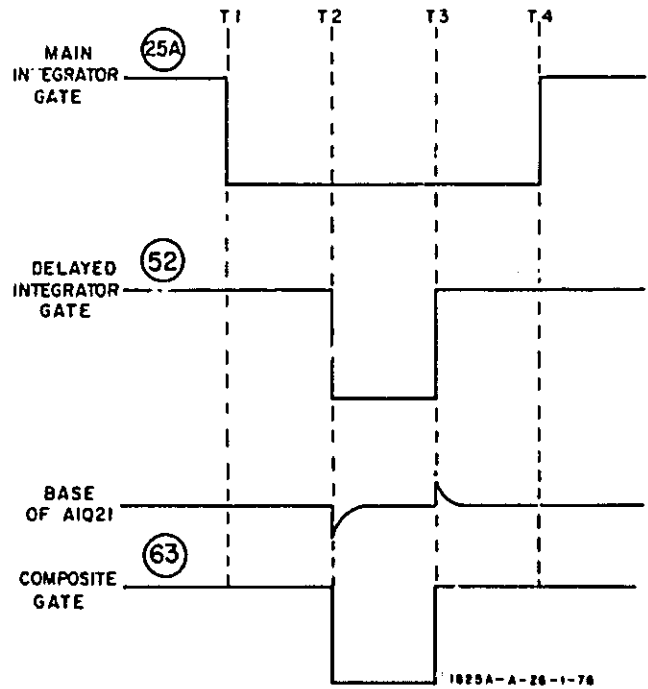

Figure 4-2. Sequence of Events, Delayed Mode Gate
4-89. In delayed mode, A1Q19 is disabled by removal of  $-12.6$  volts from line (64). A1Q23 is enabled by  $-12.6$  volts on line (65). The sequence of events for delayed mode is shown in figure 4-2. At  $t_1$ , the main integrator gate is applied to the base of A1Q20 on line (25A), enabling the Schmitt trigger. Following time  $t_1$ , the main ramp is compared with a selected